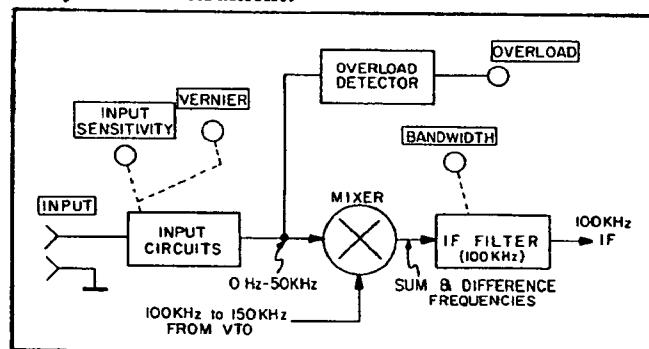

Figure 3-13. Frequency Tuning.
3-81. Refer to Figure 3-13 for the following discussion. The 3580A uses a heterodyne technique where the 0 Hz to 50 kHz input signal is mixed with a 100 kHz to 150 kHz signal from a Voltage-Tuned Local Oscillator (VTO). To select a given frequency present at the input of the Mixer, the VTO frequency is tuned so that the difference between it and the frequency of interest is 100 kHz intermediate frequency (IF) is fed through the IF Filter, detected and applied to the vertical axis of the CRT display. Signals outside the pass band of the IF Filter are rejected. The BANDWIDTH setting determines the bandwidth of the IF Filter and thus, the selectivity of the instrument.